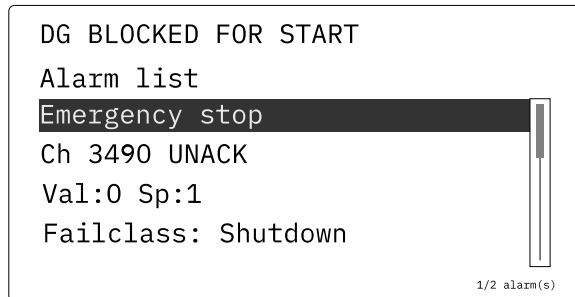

Figure 149. Alarm List
1. When a fault is detected, the controller automatically shows the **Alarm list** (Figure 149) on the display screen.